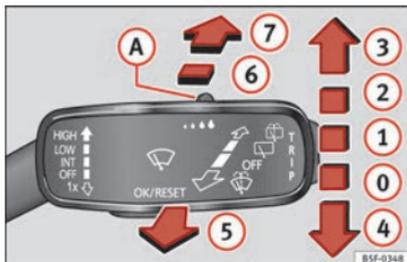

Fig. 34 Operating the windscreen wiper and rear wiper
- ① Windscreen wipers interval wipe. Using the control **» Fig. 34 (A)** adjust the interval (vehicles without rain sensor), or the sensitivity of the rain sensor.
- ② **LOW** Slow wipe.
- ③ **HIGH** Continuous wipe.
- ④ **1x** Short wipe. Brief press, short clean. Hold the lever down for more time to increase the wipe frequency.
- ⑤ Automatic wipe. The windscreen washer function is activated by pushing the lever forwards, and simultaneously the windscreen wipers start.